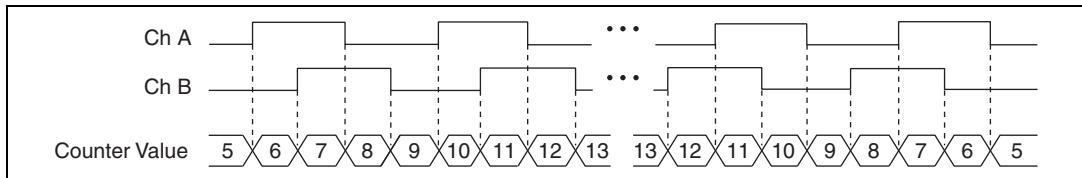

Figure 8-16. X4 Encoding
- **X4 Encoding**—Similarly, the counter increments or decrements on each edge of channels A and B for X4 encoding. Whether the counter increments or decrements depends on which channel leads the other. Each cycle results in four increments or decrements, as shown in Figure 8-16.